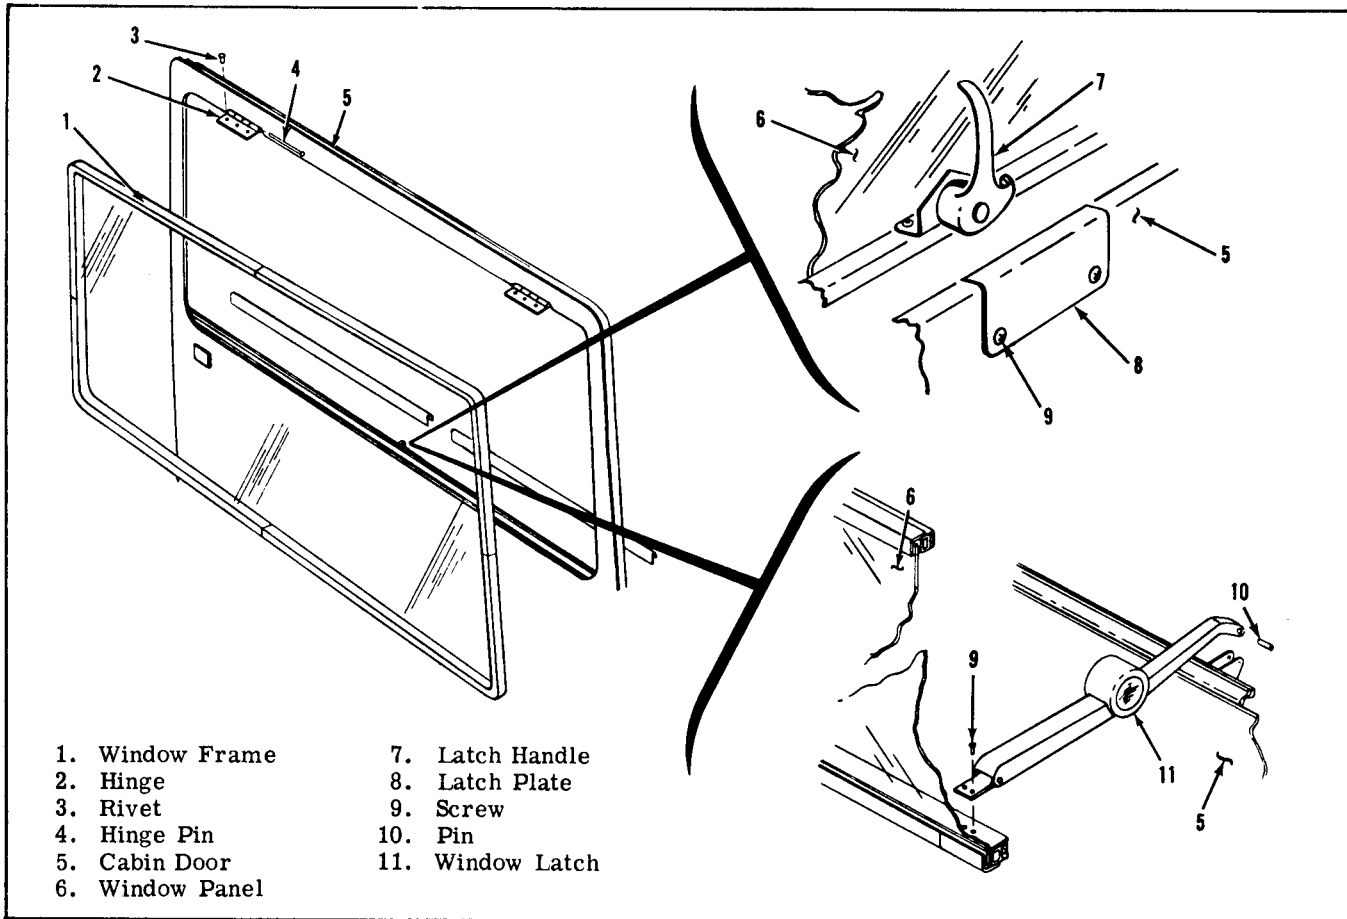

Figure 3-3. Typical Door Windows
**3-10. MOVABLE WINDOWS** (see figure 3-3), hinged at the top, are installed in some doors. Window assemblies, that is, the clear plastic and frame unit, may be replaced by pulling the latch pins and hinge pins depicted in figure 3-3. To remove the frame from the plexiglas, it is necessary to drill out the blind rivets where the frame is spliced. Design changes have been made from time to time, but the rivets to be drilled out will always be the ones securing the frame splices. When replacing a window in a frame, make sure that the sealing strip and an adequate coating of Presstite No. 579.6 sealing compound is used all around the edges of the plastic panel.